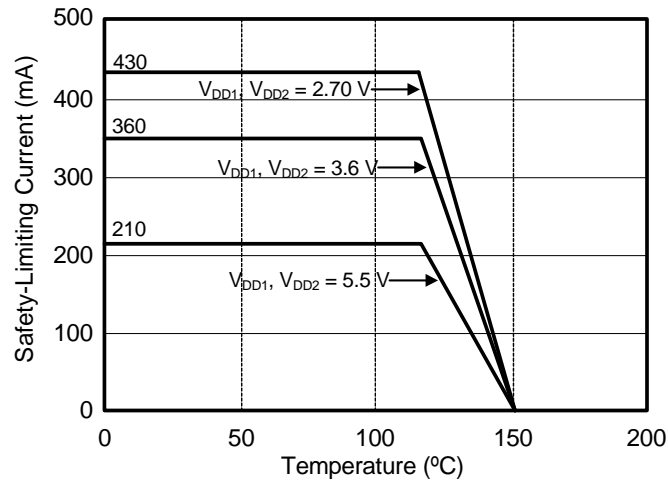

Figure 3. (Si844x, QSOP-16) Thermal Derating Curve, Dependence of Safety Limiting Values with Case Temperature per DIN EN 60747-5-2
1. Maximum value allowed in the event of a failure; also see the thermal derating curve in Figures 3 and 4.